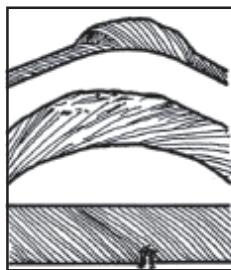

Figure 8
A check must be made every 30 cycles, as shown in Fig. 8 or below showing, to find whether the entire steel cable (6) is in good condition. If it is damaged, it must be replaced by a steel cable of the type specified in the technical data.